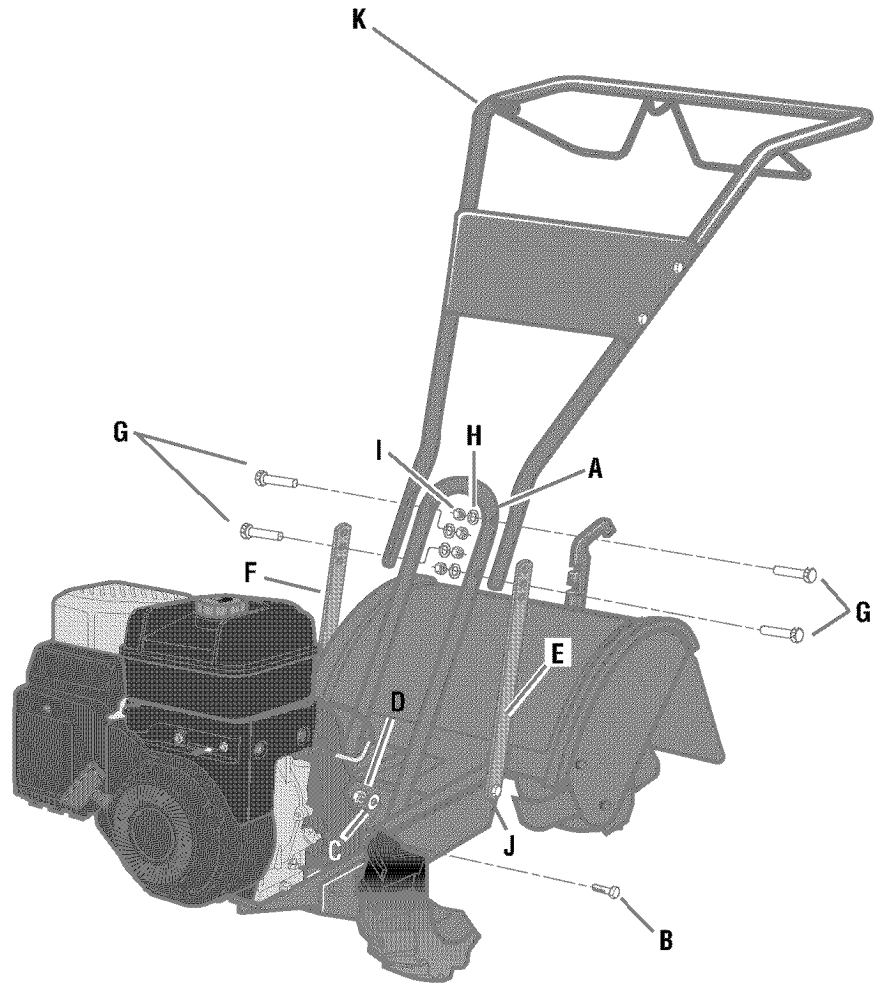

Fig. 2-2: Attach handlebar.
1	Handlebar Support (see A, Fig. 2-2, page 7)
1	Handlebar Assembly (see K, Fig. 2-2)
1. Attach the two legs of the handlebar support (A, Fig. 2-2) loosely to the inner sides of the tiller frame using two 3/8"-16 x 3/4" hex hd. screws (B), two 3/8" flat washers (C) and 3/8"-16 hex locknuts (D).
2. Using using two 5/16"-18 x 1-1/2" hex hd. screws (G), 5/16" split lockwashers (H) and 5/16"-18 hex nuts (I), loosely attach the the handlebar support (A) using the upper holes.
3. There are three height adjustment holes in the two handlebar support brackets. E & F, Fig. 2-2). Use a setting that will position the handlebars at approximately waist level when the tines are 3"-4" into the soil. Loosely attach the handlebar support brackets **to the outside of the handlebar assembly (K)** using two 5/16"-18 x 1-1/2" screws (G), 5/16" split lockwashers (H) and 5/16"-18 hex nuts (I).